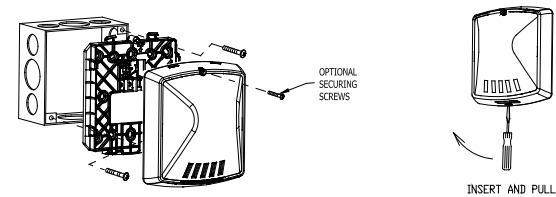

Figure 5: Installation
- Install mounting plate as shown in Figure 5 to a single-gang, double-gang, 4" square backbox with the provided pan head screws.
- Remove terminal cover before snapping or installing the appliance onto the mounting plate per Figure 5.
- To remove the appliance, insert a small flat-bladed screwdriver into the bottom opening 1/2" as shown in Figure 5. Then pry off housing with the screw driver.